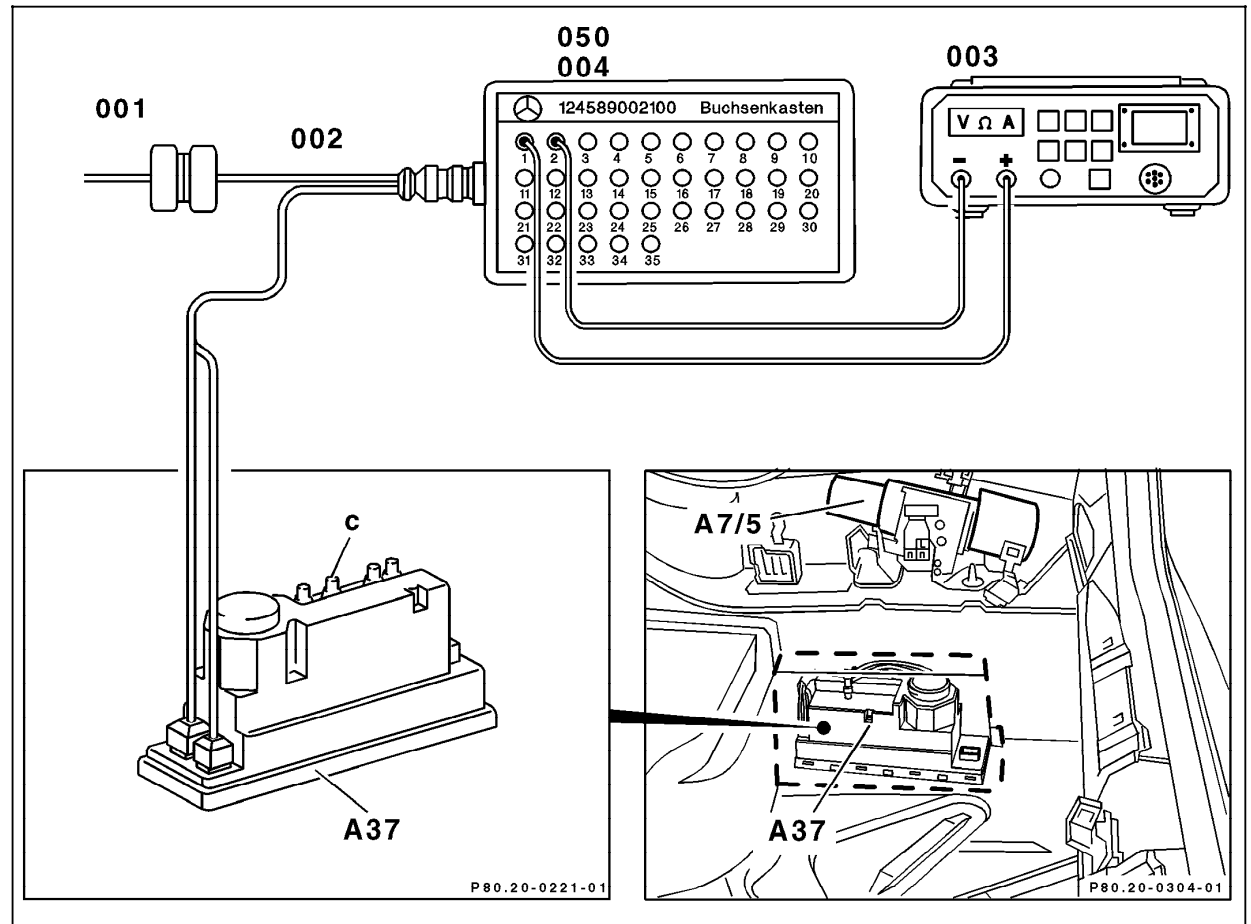

Figure 1
5. Connect socket box with test cable according to connection diagram, see 22, Figure 1 – 3.